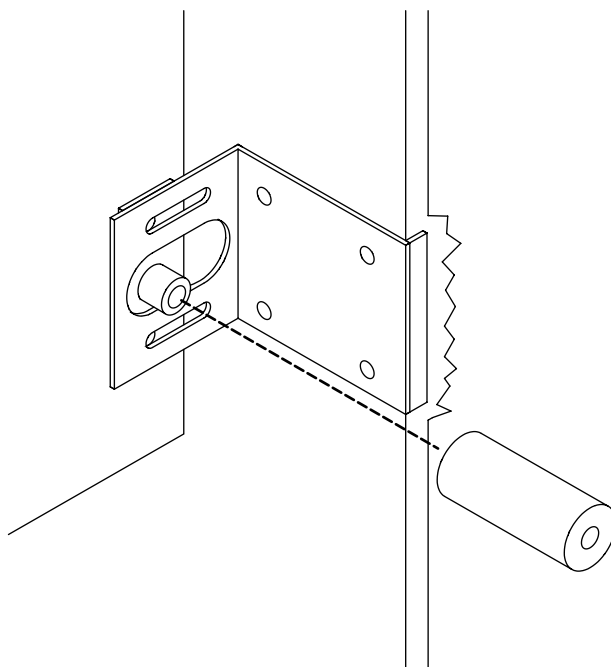

fig. 17
2. Place standoffs on the posts of the speaker mounting brackets. (please see fig. 17).